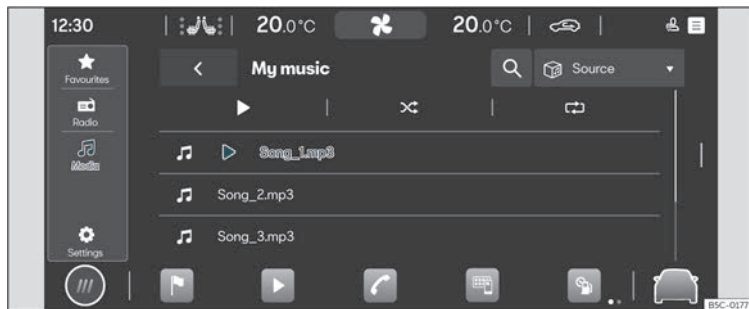

Fig. 147 Schematic representation: Multimedia view
- Press **HOME** > ► > 🎵 >>> Fig. 147.